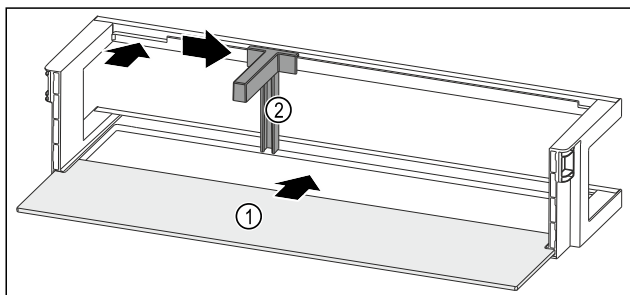

Fig. 180 Door rack with shelf
- Push the shelf Fig. 180 (1) into the side recesses.
- Insert the bottle holder Fig. 180 (2) in the recess.
- Push the bottle holder Fig. 180 (2) to the desired position to the side.